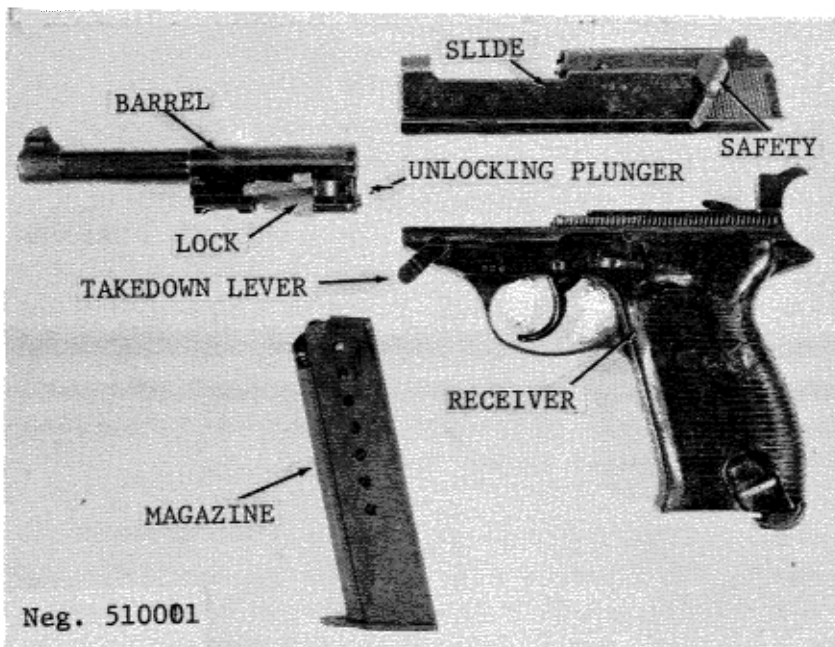

Figure 2. P1 pistol, disassembled.
b. Invert the slide and barrel. Press in on the unlocking plunger (fig 2) to unlock the barrel from the slide and push the barrel forward, out of the slide.
d. To reassemble the pistol, insert the barrel into the inverted slide; when the barrel is seated against the slide face, press the lock (fig 2) down.